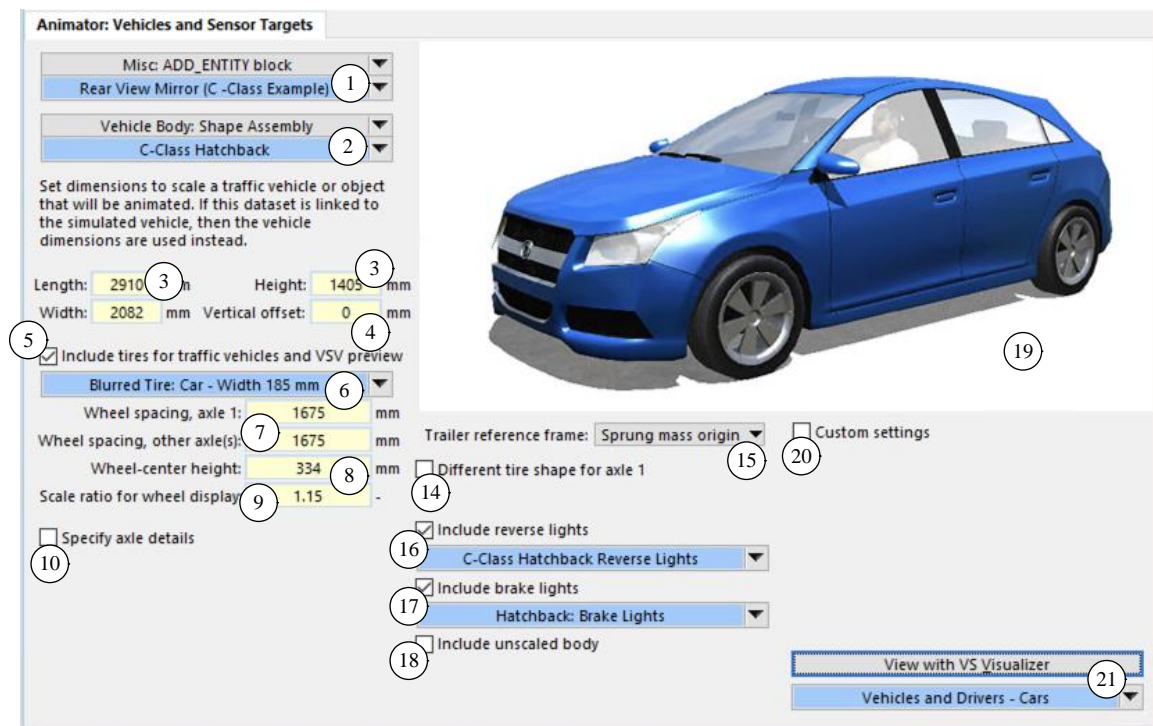

Figure 1. Example dataset for a CarSim vehicle with a rear-view mirror.
Figure 1 shows an **Animator: Vehicles and Targets** dataset for a two-axle CarSim vehicle. This dataset support visualization of the ego vehicle and controls such as HUD, reverse lights, and brake lights. It also supports visualization of moving objects that have the appearance of traffic vehicles that include brake lights. The visualization of the sprung mass of either a simulated vehicle or a moving object that looks like a vehicle is set with the controls (2) - (4).
- ⑪ Drop-down list to specify the number of axles. This is not visible unless the checkbox to specify axle locations is checked ⑩.
- ⑫ Longitudinal location of each axle, used to show the tire/wheel shapes ⑥ and ⑭ in the intended locations. These are not visible unless the box to specify axle locations is checked ⑩. These locations are not used when animating a simulated vehicle; the locations are all obtained from the vehicle parameters.
As noted earlier, when tires are included but these fields are not shown (Figure 1), the assumption is that the vehicle has two axles, with the front axle being located at zero longitudinal position, and the rear axle being located back by the length dimension ③.
- ① Miscellaneous link for use in custom animations. For example, this link is used in the Figure 1 dataset to specify a rear-view mirror location for a specific vehicle. It is used in another example (in the following section) to show an extra moving body for a hinged tow bar in a TruckSim model.
- ⑮ Drop-down control for specifying a point for defining animator reference frames for trailers in CarSim and TruckSim combination vehicles.